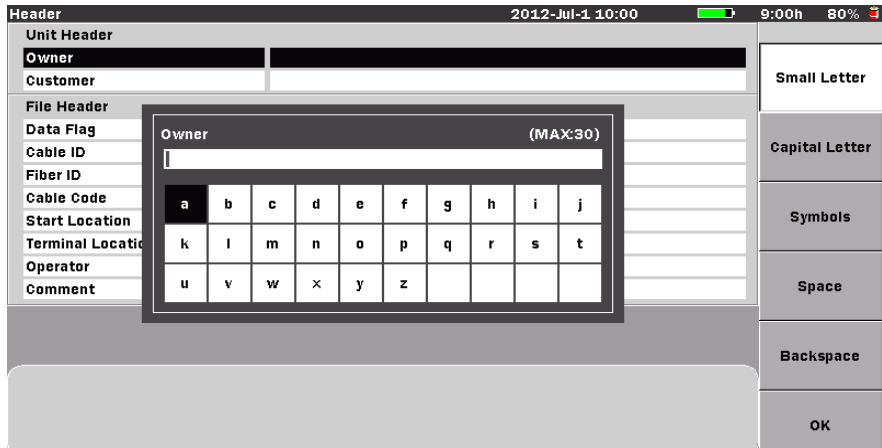

Figure 4-43: Text Entry dialog box
4. Use the **Up** and **Down Arrow** keys (or the **Rotary knob**) to highlight the desired field and then press the **Enter** key. The Text Entry dialog box appears (see Figure 4-43). If no USB keyboard is connected, follow the instructions from step 5. to enter the name using the front panel keys.